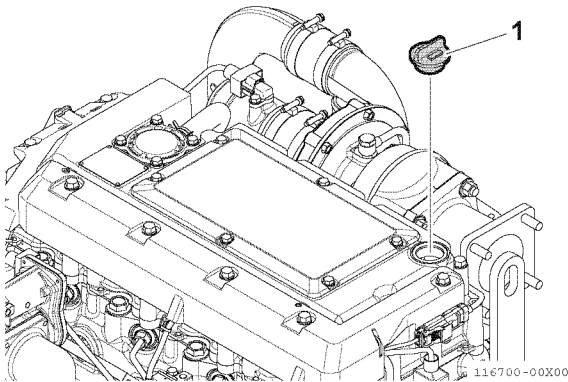

Fig.30-20
2. Remove the engine lubricating oil filler port cap (1, Fig.30-20), and add indicated amount of engine lubricating oil at the top or side engine lubricating oil filler port. When filling oil from the top of the engine, add the lubricating oil gradually.